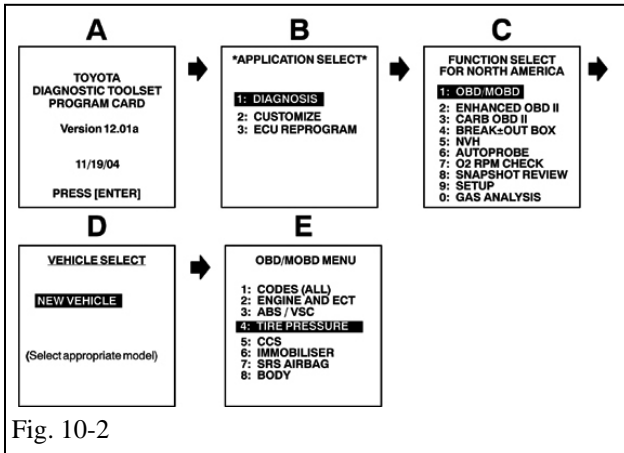
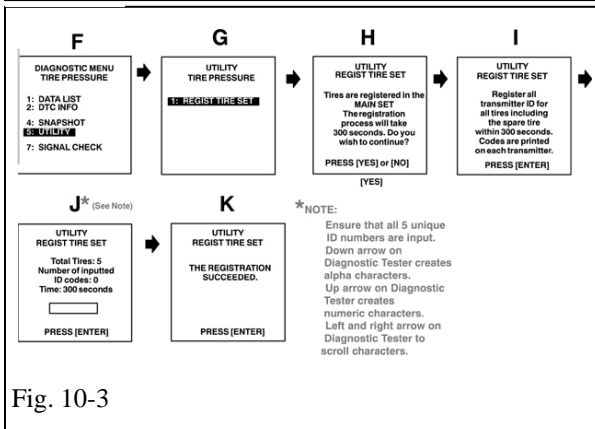

Fig. 10-2
Fig. 10-3
- (d) Turn on Tester and Select UTILITY - REGIST TIRE following the hand-held tester screen prompts. (Fig. 10-2 & Fig. 10-3)